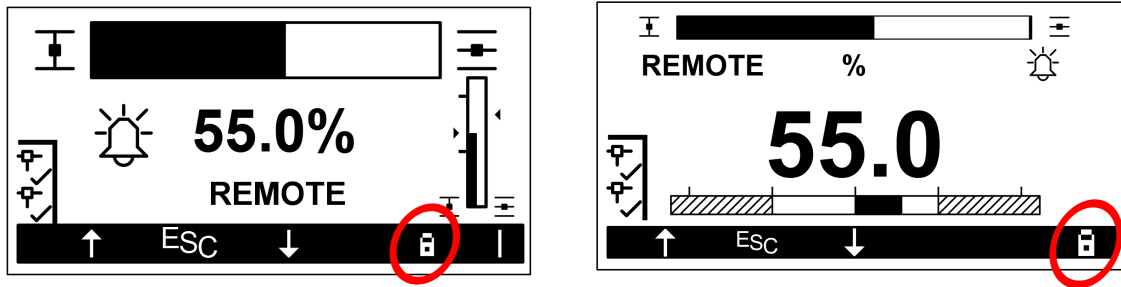

Figure 6.3: Display unit disabled
If the lock symbol is displayed (refer to figure 6.3), local operation is disabled and the actuator can only be operated from REMOTE. In this instance, an enable command must be issued to activate use of local controls. If local controls are not disabled, select the menu for operation mode LOCAL by means of the ENTER push button/key (4 in figure 6.1).